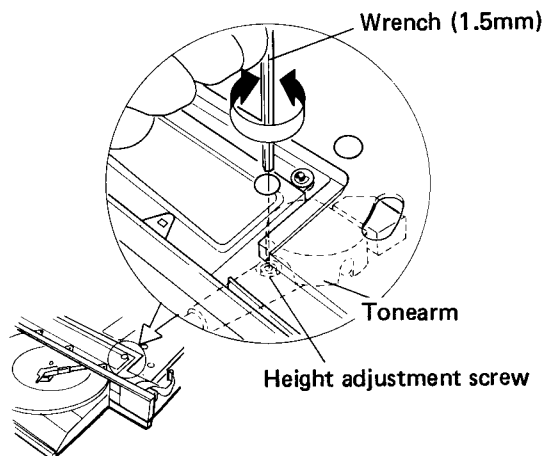

Fig. 9.12 Stylus Tip adjustment Screw
3. While holding the tonearm in the left hand, adjust the adjustment screw with a wrench (1.5mm) passed through the adjustment hole as shown in Fig. 9.12.